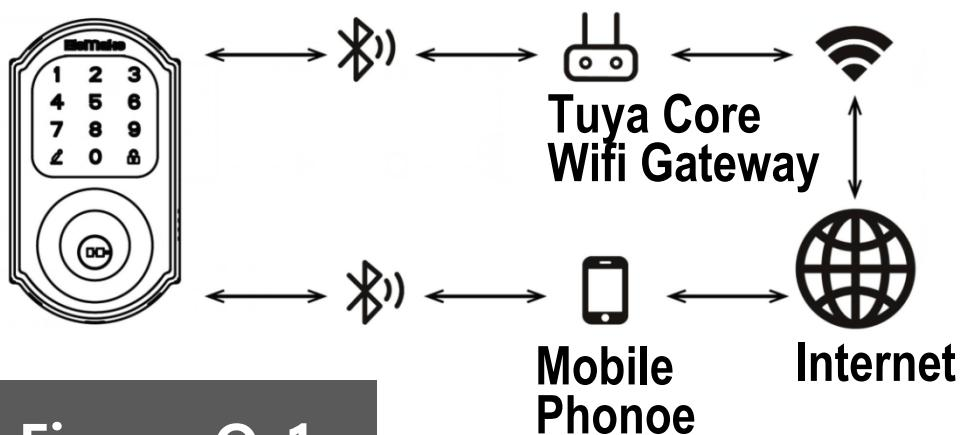
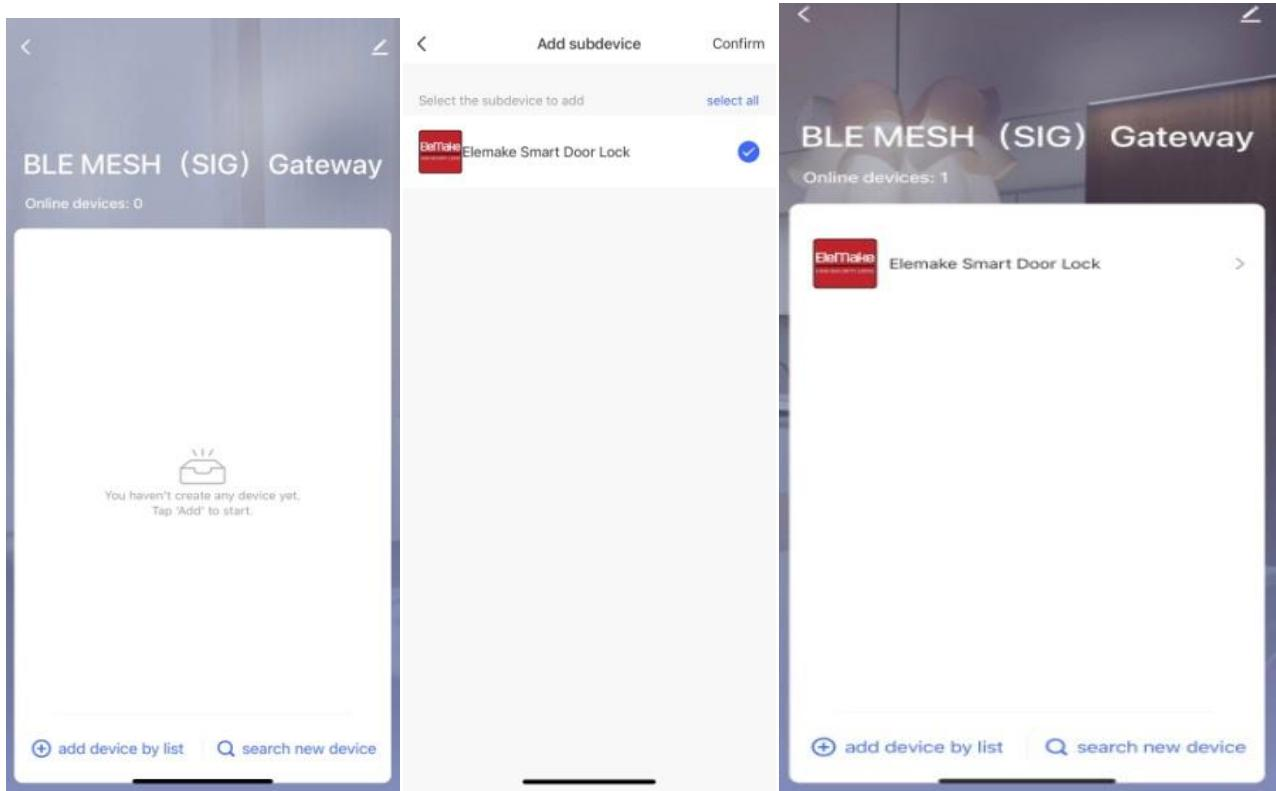

Figure O-1
Figure O-2
4.3 Connect WIFI (Optional) (See **Figure O-1**, **Figure O-2**)
(a) Elemake Internet Wireless Communication Diagram (See **Figure O-1**)
(b) Setup the Tuya Wifi gateway. (optional)(any wifi gateway with Tuya gateway IC) --If user want to use the internet functions. (See **Figure O-2**)